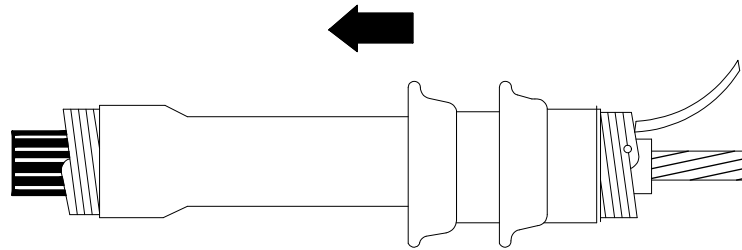

Figure 4
8. Remove the red support core from the terminator and slide the terminator onto the cable. The terminator must be positioned beyond the exposed conductor to allow installation of the lug or pin connector. See Figure 4.